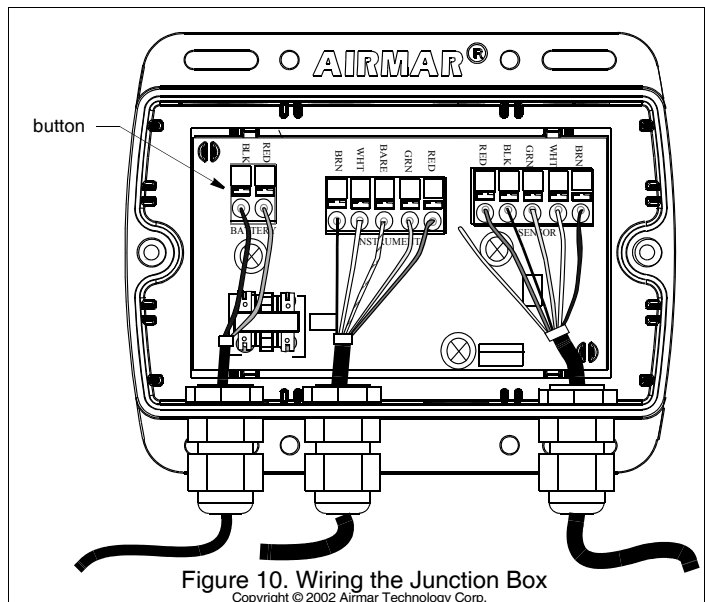

Figure 10. Wiring the Junction Box
1. From outside the junction box, carefully pull each of the cables in turn until only 25 mm (1") of the cable jacket remains inside the box (Figure 10).